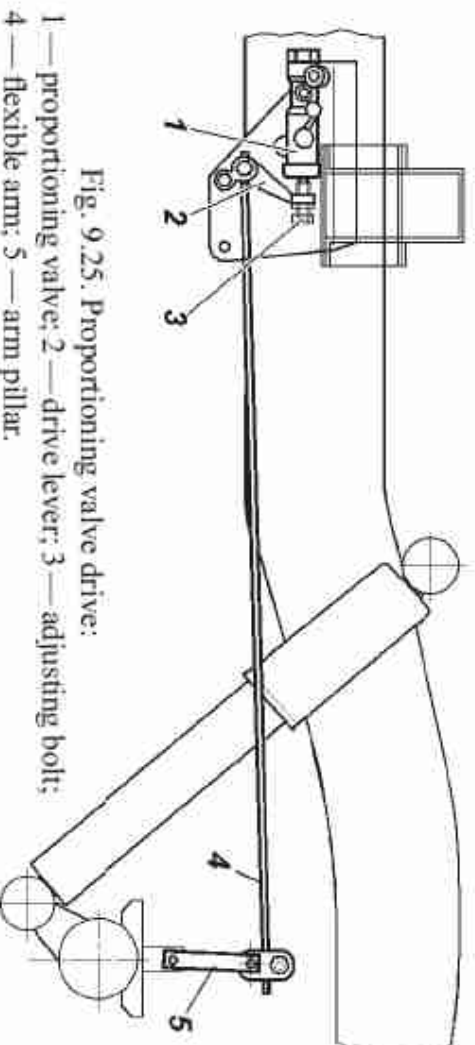

Fig. 9.25. Proportioning valve drive:
During the operation and during rear springs replacement, adjust the force of flexible arm 4 (Fig. 9.25) to the valve piston. For adjustment do the following:
4. Tighten bolt 3 (see Fig. 9.25) for 2/3 turns (14 edges of the bolt head).